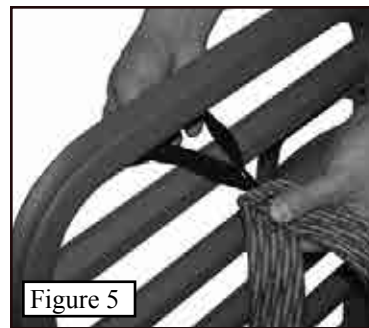
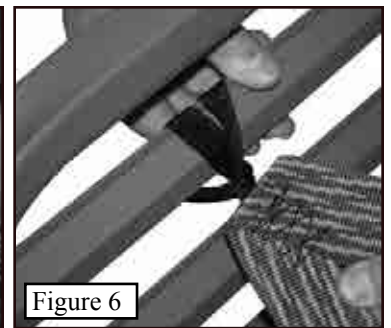

Figure 5
Figure 6
Step 1. Place the looped end on the 2" wide strap around the middle of the second platform rung from the front of the stand as shown in **Figure 5**. Push all of the remaining 2" strap through the loop as shown in **Figure 6**.